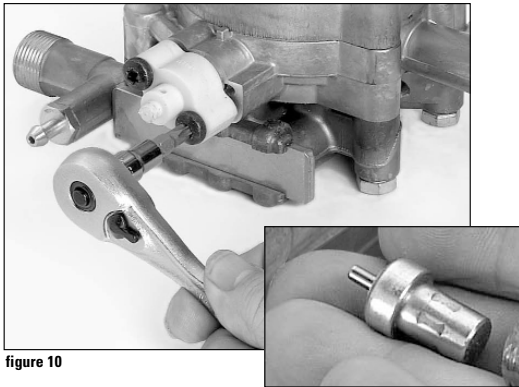

figure 10
2. Remove thermal relief valve housing. (figure 10)
3. Remove thermal relief valve. (figure 10 inset)